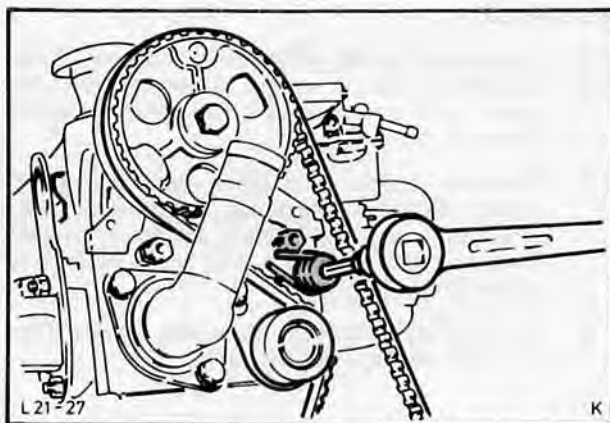

Fig. 200. Slacken toothed belt tensioner, using Special Tool 21-012
8. Slacken toothed belt tensioner to enable it to become positioned against toothed belt after cranking engine twice, Fig. 200. After cranking torque tensioner and camshaft pulley bolts as specified in Technical Data. (Hexagonal bolt first, then special bolt.)